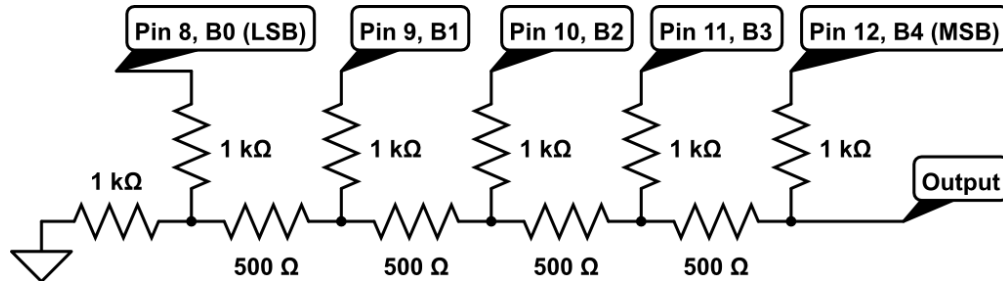

Figure 7: A 5-bit R-2R Ladder DAC
- Construct the circuit shown in figure 7 and connect to the indicated pins on your microcontroller board. **You will be using the circuit for the rest of lab.**